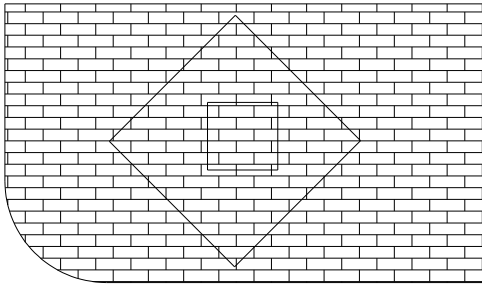

Figure 15.3: Hatching using the Ignore hatching type.
- Ignore – toggle this on to hatch within the outermost boundary and ignore all other boundaries (see Figure 15.3).